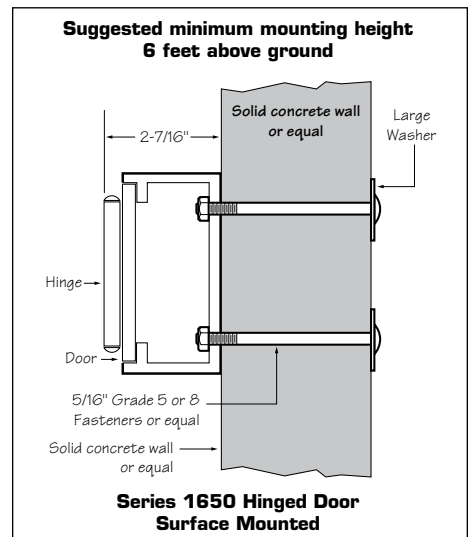

Figure 1
1. Always mount KNOX-BOX to a secure, solid wall, beam or post in an area sheltered from excessive moisture (see Figure 1). For fire department use, consult your fire department for other mounting requirements such as height and placement on the building. A six-foot height is recommended to resist vandalism.
3. After using a small level to plumb the box square, install the box using at least four (4) Grade 5 or Grade 8 fasteners (carriage bolts, etc.) of 5/16" diameter. Units must be mounted on solid studs or steel supports, or they may be welded into place. **DO NOT MOUNT FACE DOWN FROM CEILING OR OVERHANG.** This position may cause contents to jam lock.